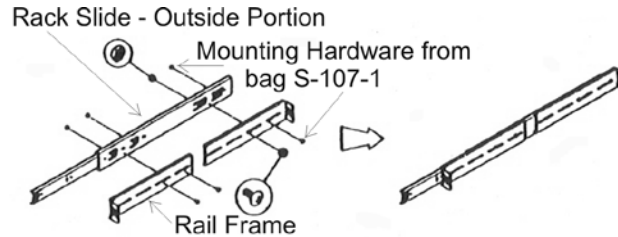

Figure 3 – Outside Rail and Frame Assembly
10. Refer to figure 3 and attach two rail frames each to the outside portion of both rack slides using the hardware in bag number S-107-1.